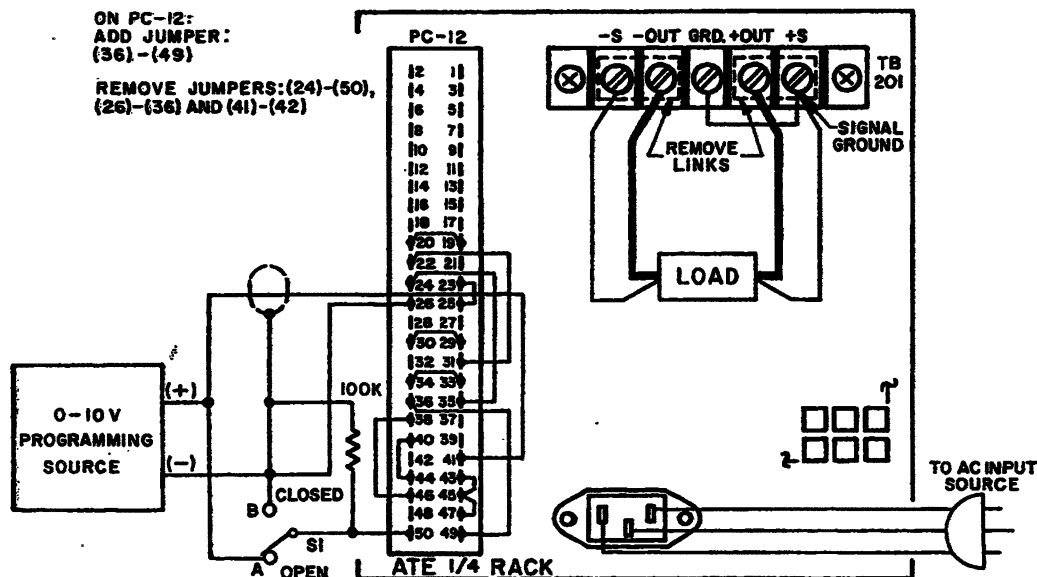

FIG. 3-15 CONNECTIONS FOR SIMULTANEOUSLY PROGRAMMING THE ATE OUTPUT VOLTAGE AND THE CROWBAR LEVEL (AUTOMATIC TRACKING).
- 1) Connect jumpers on the REAR PROGRAMMING CONNECTOR as indicated in FIG. 3-15 and connect switch (S1) as shown. Turn front panel CROWBAR LEVEL control fully counterclockwise.
- 2) Connect a substitute LOAD and the EXT. PROGRAMMING SOURCE as shown in FIG. 3-15.
- 4) Remove S1, and connect a jumper between (41)-(50) of PC-12. Connect the actual LOAD, reactivate the ATE circuit breaker and commence operation. Should erratic triggering occur in actual operation, set front panel CROWBAR LEVEL control slightly clockwise. This will increase the "threshold" voltage; that is, the difference voltage between the crowbar level and the operating voltage.
STEP 1: Connect external components, the LOAD, the PRECISION VOLTMETERS and the R_M as shown in FIG. 3-15.